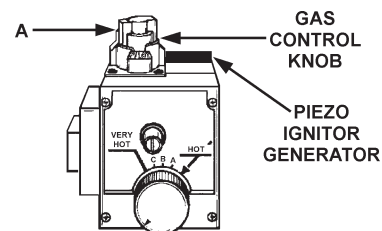

FIGURE 12.
7. Turn the gas control knob "A" to "PILOT". Depress knob slightly and rotate to "OFF" position, see Figure 12.